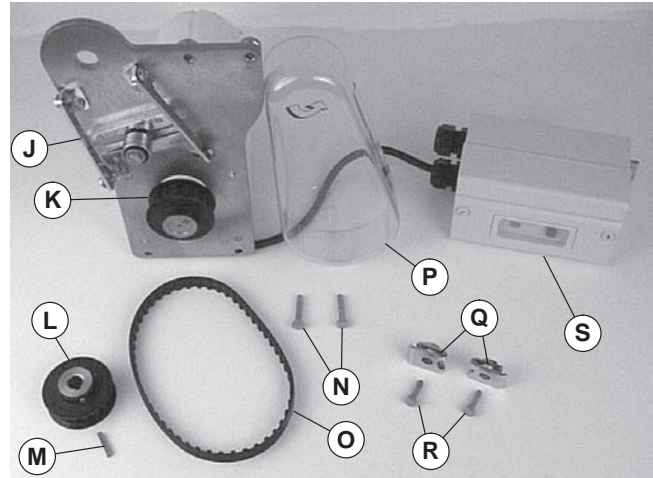

Figure 2
1. Typical components (Figure 2)
Figure 2 shows a 7200 Series mounting package with a timing belt and three-phase Motor Starter. Single-phase Motor Starter or VFD Controller similar. 7300 Series mounting package similar.